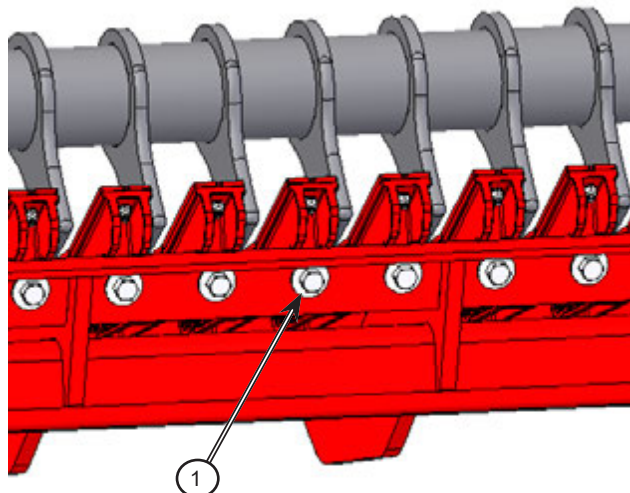

Figure 6.30: Remove the tine from the apron
2. Remove the tine from the apron; see *Figure 6.30*.
- a. Remove the hex bolt and washer (1) fastening the tine onto the apron. Set aside for reuse.